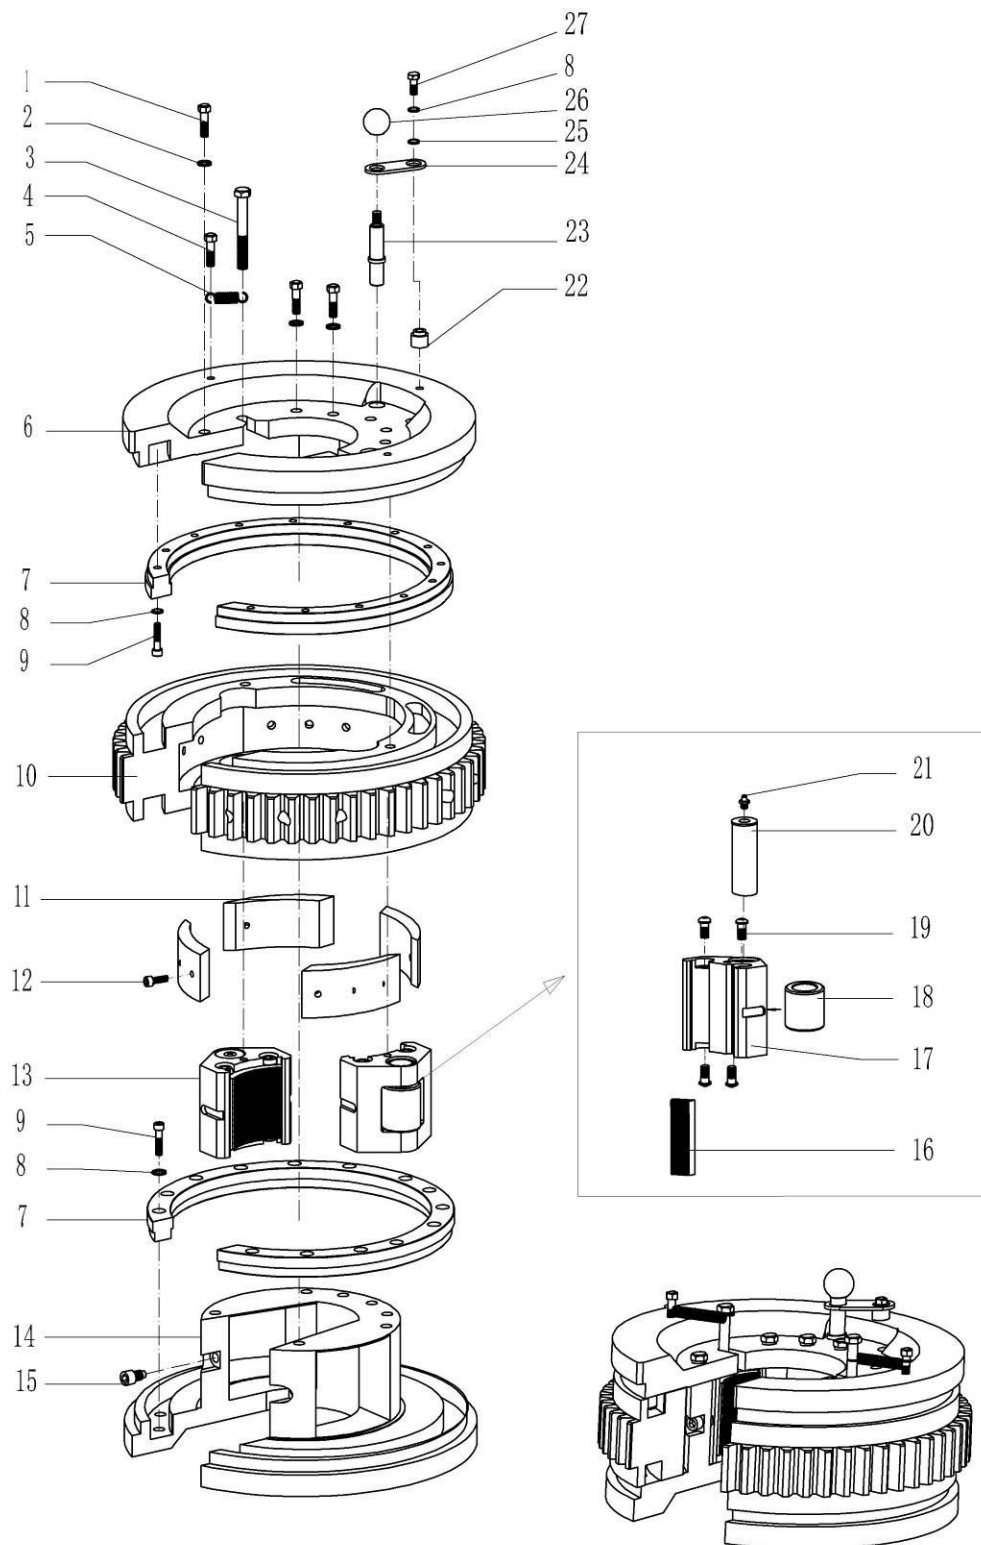

Fig. 7-3
3. Assembly of tong head (Fig 7-3, Table 3)